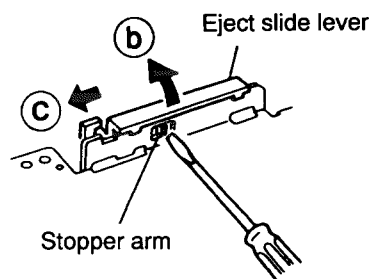

Fig.2-18
(See Fig.2-18)
1. Place the cassette mechanism back side frontward and disengage the stopper arm ③ of the Eject slide lever by pressing it inwards through the opening of the chassis with a small screwdriver as shown in Fig. 2-18.
2. Disengage the Eject slide lever in the direction of arrow ④.